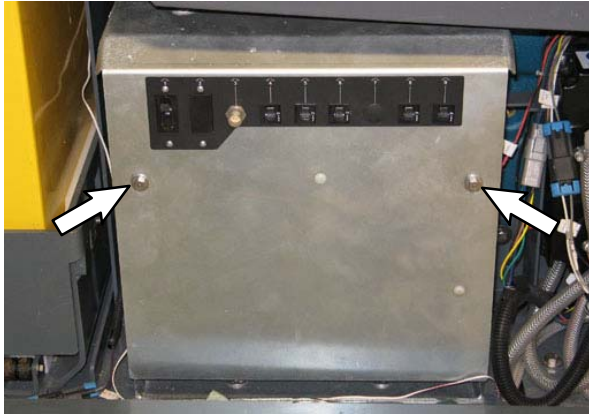
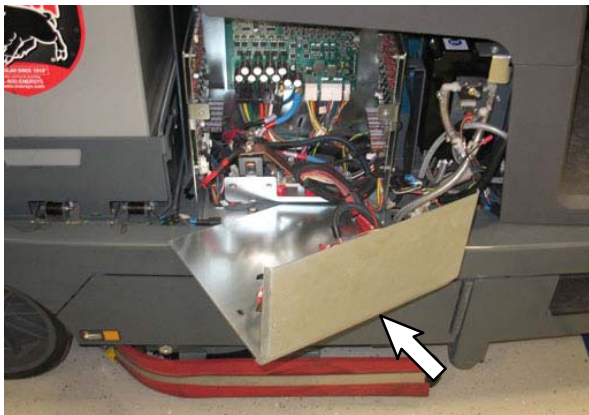

FIG. 1
FIG. 2
1. Remove both SEMS M6 hex screws securing the electrical enclosure cover to the electrical enclosure. Set the SEMS M6 hex screws aside. (Fig. 1)
2. Carefully remove the electrical enclosure cover from the electrical enclosure and position the electrical enclosure cover out of the way. **Do Not** break or damage wires / wire connections when removing the electrical enclosure cover from the electrical enclosure. (Fig. 1 / Fig. 2)
13. Reinstall the electrical enclosure cover onto the electrical enclosure. (Fig. 1)